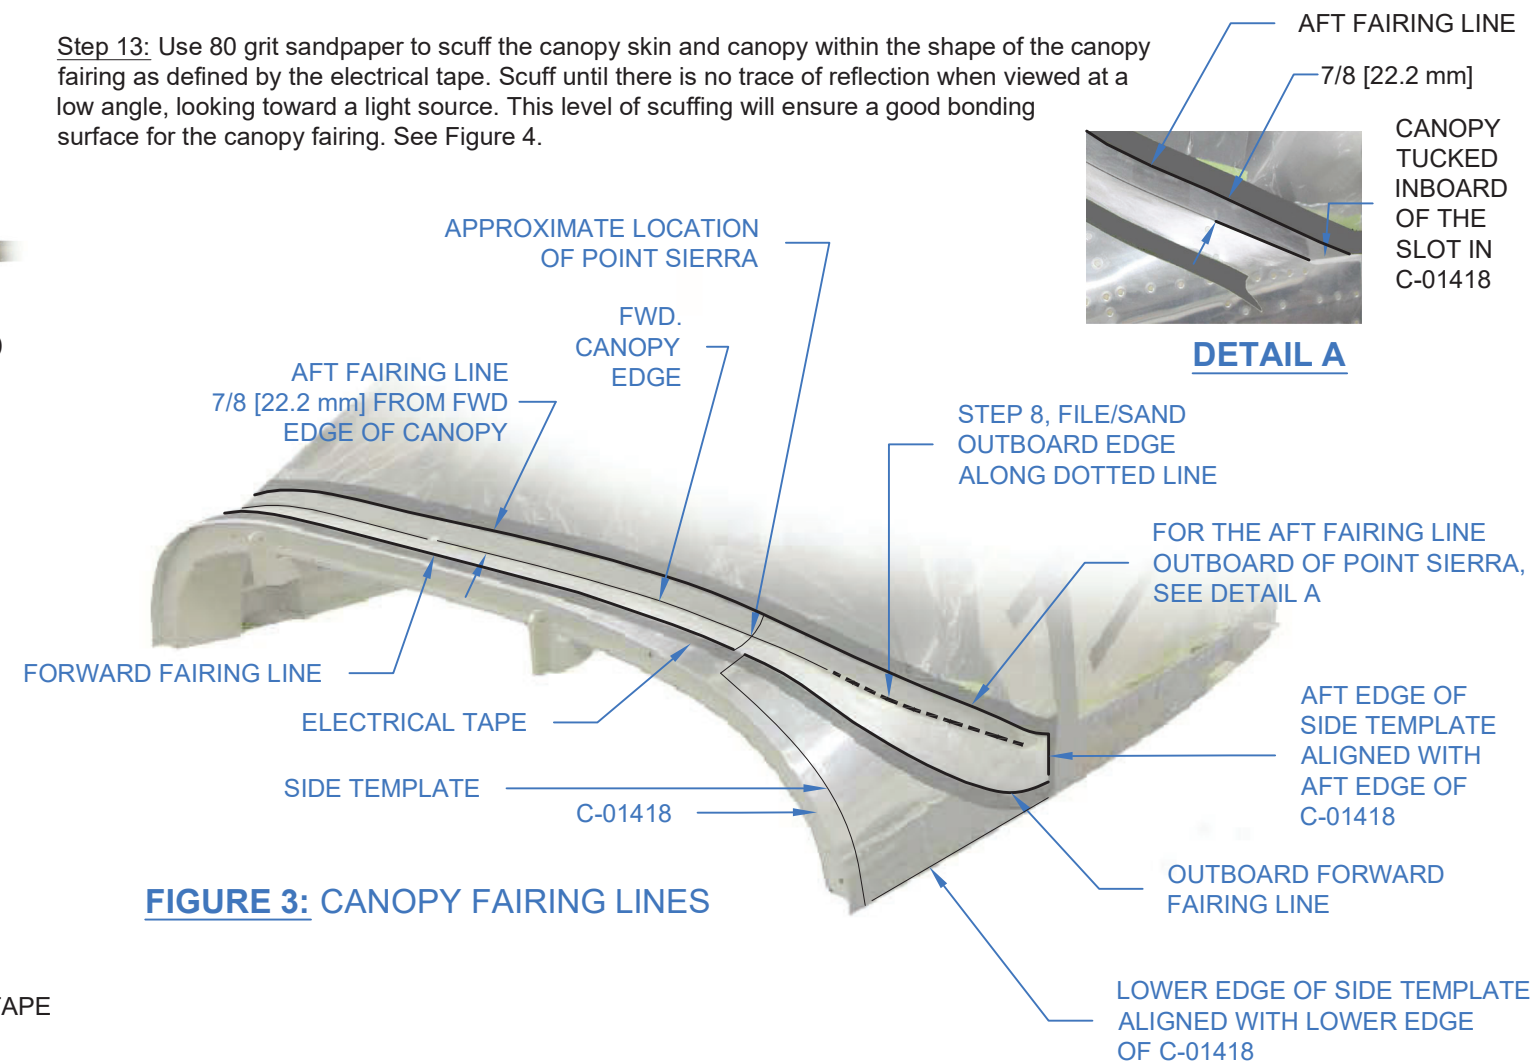

FIGURE 3: CANOPY FAIRING LINES
Step 8: See the "STEP 8" call-out in Figure 3.
Step 10: Position the Side Templates on the C-01418 Canopy Skin as shown in Figure 3.
Step 12: Apply a double layer of quality electrical tape to the canopy skin along the "forward fairing line" and "outboard forward fairing line" as shown in Figure 3.